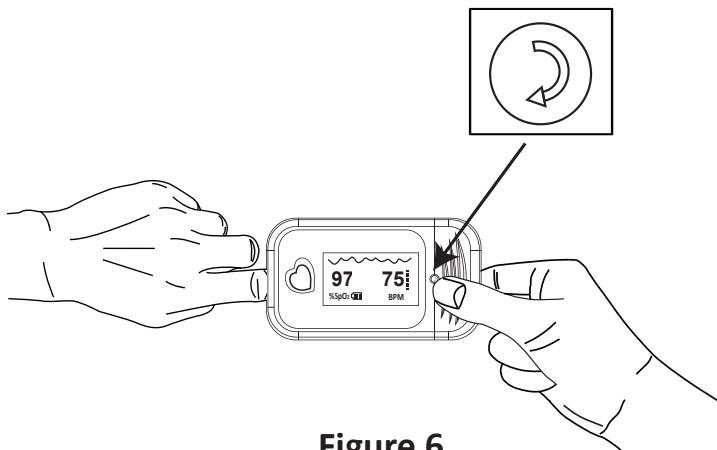

Figure 6
- 1) Press the Display mode switch, See figure 6.